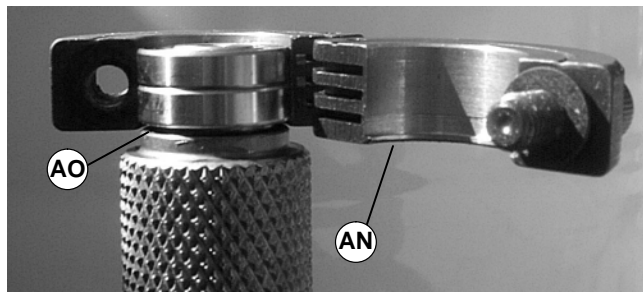

Figure 25
1. Place bearing removal tool (part # 450281) over bearing(s) with lip (AN of Figure 25) located in Bearing gap (AO) as shown.